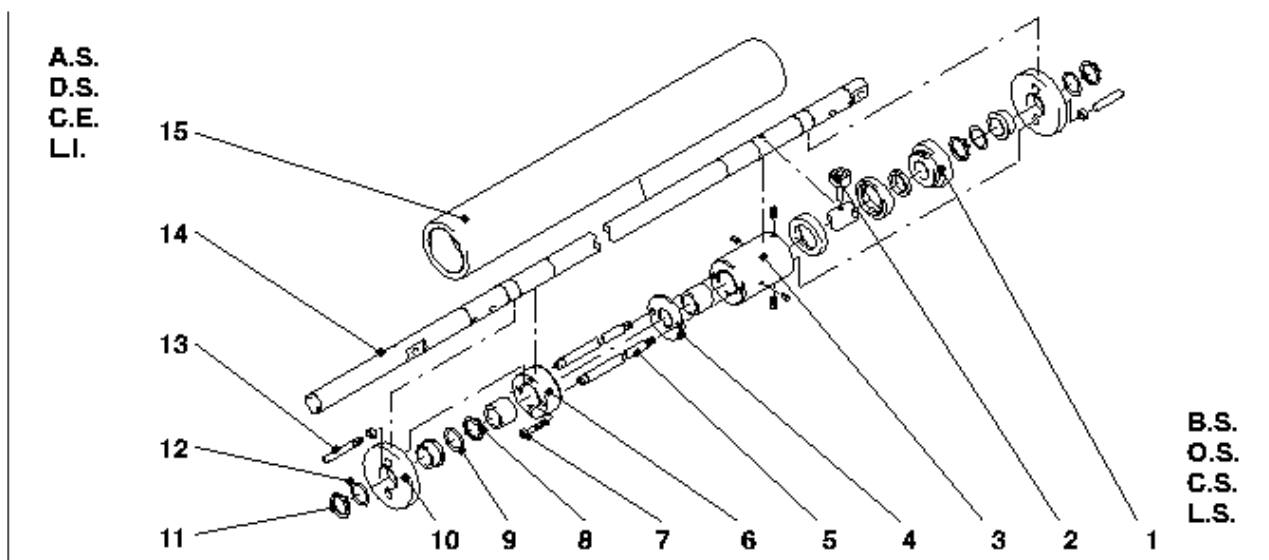
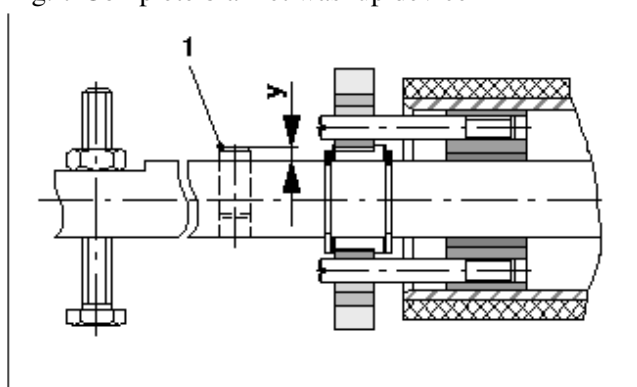

Fig. 7 Complete blanket washup device
Fig. 8 Blanket washup device D.S.
12. Measure and note down the distance y (Fig. 8) (e.g. 1.7 mm). Sink spring dowel sleeve (Fig. 8 /1, 9 /3) into the shaft (Fig. 7 /14, 9 /1) so that washup roller and drive gear (Fig. 7 /10) can easily be removed later.
14. Remove circlip (Fig. 7 /11) and fitted disc (Fig. 7 /12) before the drive gear (Fig. 7 /10).
16. Remove circlip (Fig. 7 /8) and fitted disc (Fig. 7 /9) behind the drive gear.
17. Loosen the Allen screws (Fig. 7 /7) that are used for retaining the bearing (Fig. 7 /6).
18. Slightly raise the shaft of the blanket washup device on D.S. and pull the washup roller (Fig. 7 /15) together with bearing and drivers (Fig. 7 /13) in direction D.S.
20. Use the two pull rods to pull the new washup roller onto the shaft. Push the bearing at the drivers into the washup roller and tighten the two Allen screws (Fig. 7 /7). The following
- When you mount the washup roller over bush (Fig. 7 /3), bearing (Fig. 7 /1) and pull rods (Fig. 7 /5), the washup roller must be introduced without any force into the roller core until the thrust disc (Fig. 7 /4) hits the end.
- Visually inspect the recesses for the bearings in the washup roller (Fig. 7 /6, 7 /1) for dirt and rubber residuals. Clean them with a cleaning cloth and lightly lubricate them with Optimol Longtime PD2.
- Mount the washup roller with a slightly rotating movement. Never support a tight insertion of the washup roller by hitting the shaft ends of the blanket washup device. This would destroy the grooved ball bearing (Fig. 7 /2) between the cam discs.